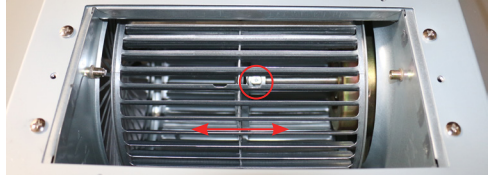

Figure 6 Fixing Screw
- Rotate the fan wheel so that the blade with two small cuts is facing you. (Figure 6)